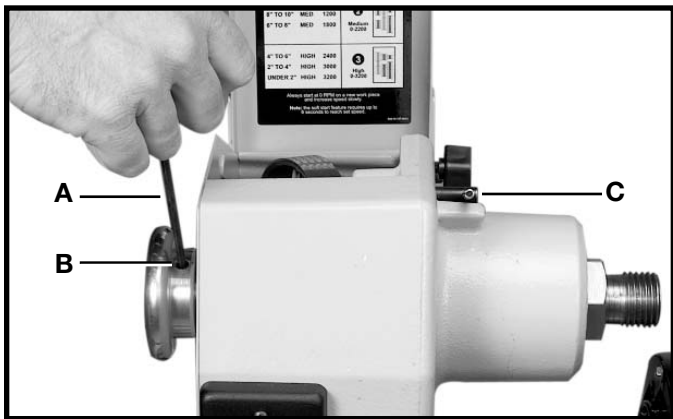

Fig. 71
1. Use the supplied Allen wrench (A) Fig. 71 to loosen the set screw in the handwheel (B) Fig. 71. Engage spindle lock (C) and rotate handwheel clockwise to remove.